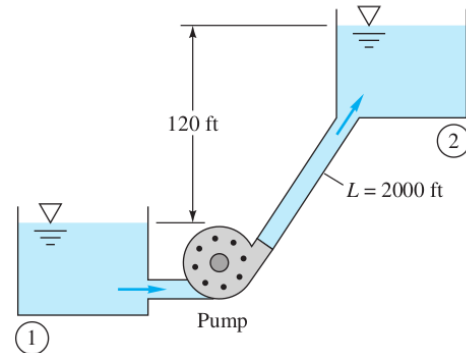

Fig. 6.6
- 6.6 Water at 20°C is to be pumped through 600 m of pipe from reservoir 1 to 2 at a rate of $0.1 \text{ m}^3/\text{s}$, as shown in Fig. 6.6. If the pipe is cast iron of diameter 15 cm and the pump is 75 percent efficient, what horsepower pump is needed?